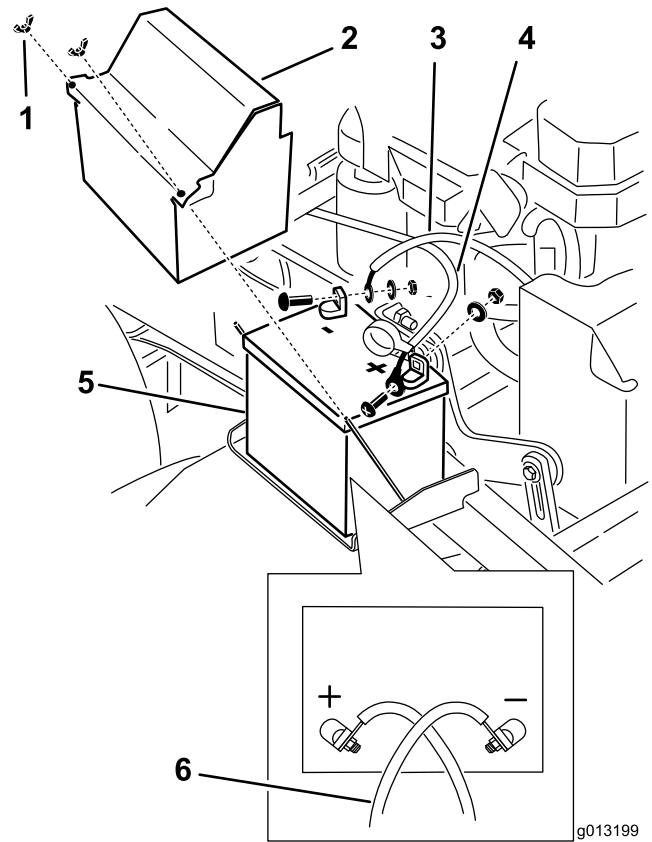

Figure 52
3. Disconnect the negative battery cable from the negative (-) battery terminal (Figure 52).
5. Remove the positive (red) battery cable (Figure 52).
6. Remove the battery hold-down plate and remove the battery (Figure 52).
1. Place the battery onto the machine (Figure 52).
3. Install the positive (red) battery cable to positive (+) battery terminal with a nut, a washer, and a bolt (Figure 52).
5. Install the negative battery cable and ground wire to the negative (-) battery terminal with a nut, a washer, and a bolt (Figure 52).
Note: The battery cables cross over each other when they are correctly installed (Figure 52).